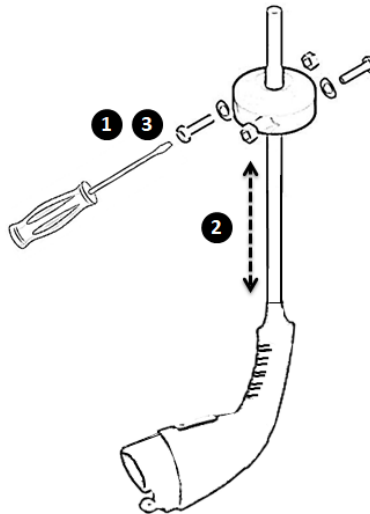

Figure 2-6 Cable Stop Adjustment
11. After the EVOREEL cable guide brackets are adjusted, adjust the Cable Stop to extend the Charging Plug/Connector to the desired height (Note: For public installations, to meet ADA reach requirements, the Charging Plug/Connector height should not exceed 48 inches from the Ground when the cable is fully retracted). Referring to Figure 2-6, adjust the Cable Stop by loosening the Cable Stop Screws (Step 1), moving the cable stop to the desired position (Step 2) and then fastening the screws to secure the Cable Stop (Step 3).